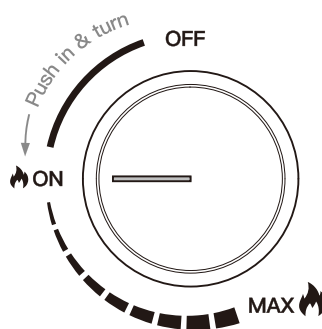

Figure 2
4. Push in the control knob without releasing it, then turn it counterclockwise to the “ON” position (Figure 2).